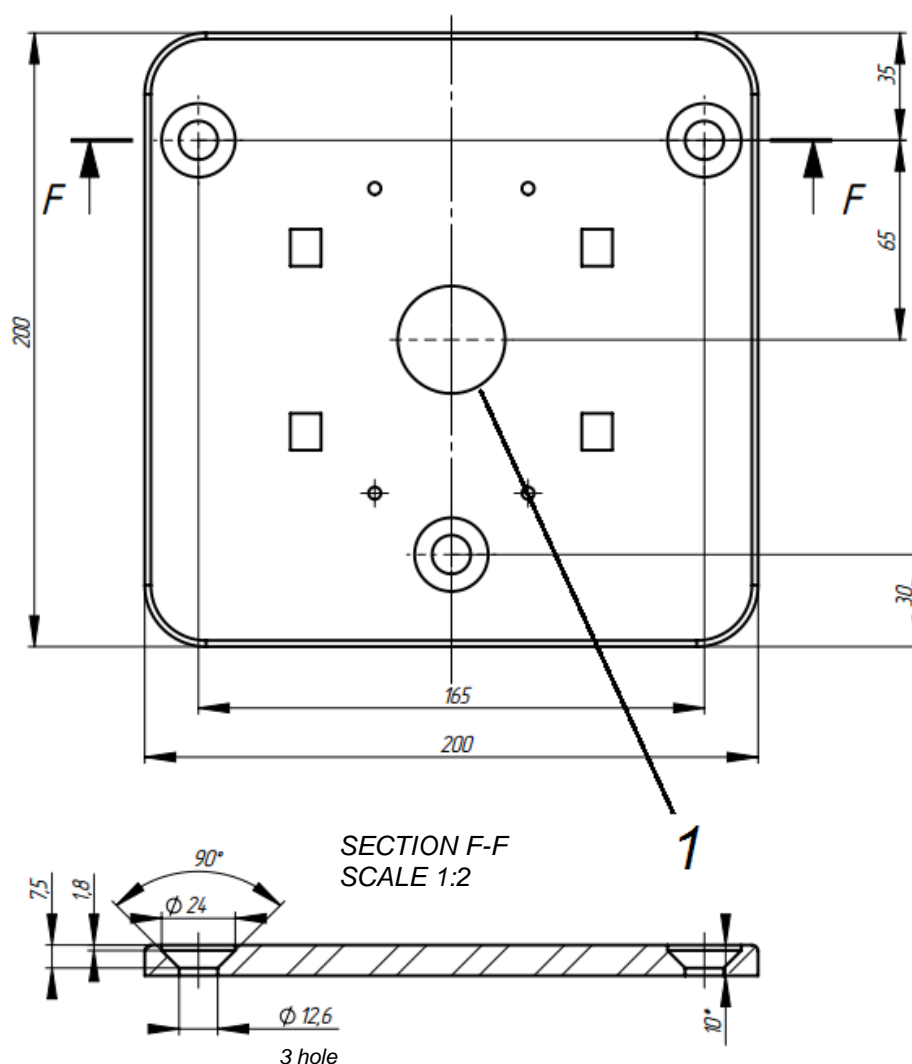

Figure 4 – Installation dimensions of the turnstile site
4.2.4 Figure 4 – cable routing is exercised through hole (1) at the lower turnstile stand plate.